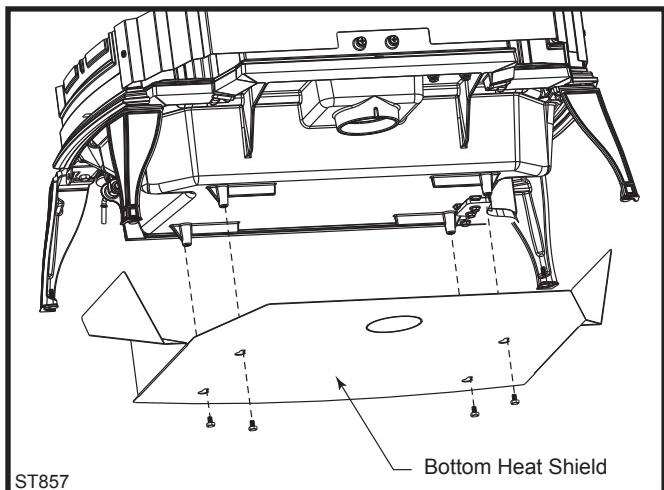

Fig. 22 Attach the optional bottom heat shield.
4. Tighten the four hex head bolts securely after passing all four bolts through the large end of the keyholes and then pulling the shield forward to engage the smaller ends of the keyhole slots. (Fig. 22)